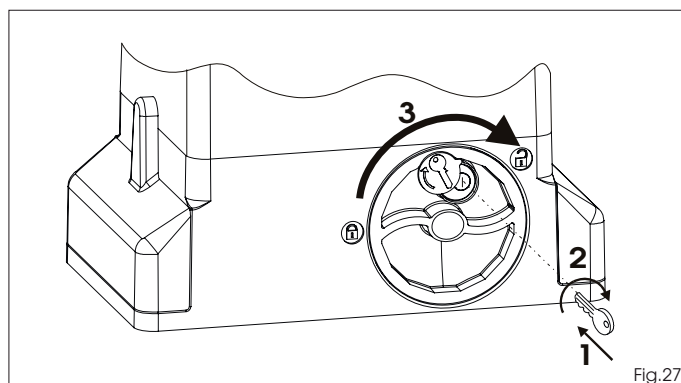

Fig.27
- 1) Insert the key provided and turn it clockwise as shown in Fig. 27 ref. 1 and 2.
- 2) Turn the release system clockwise, until the mechanical stop is reached, Fig. 27 ref. 3.